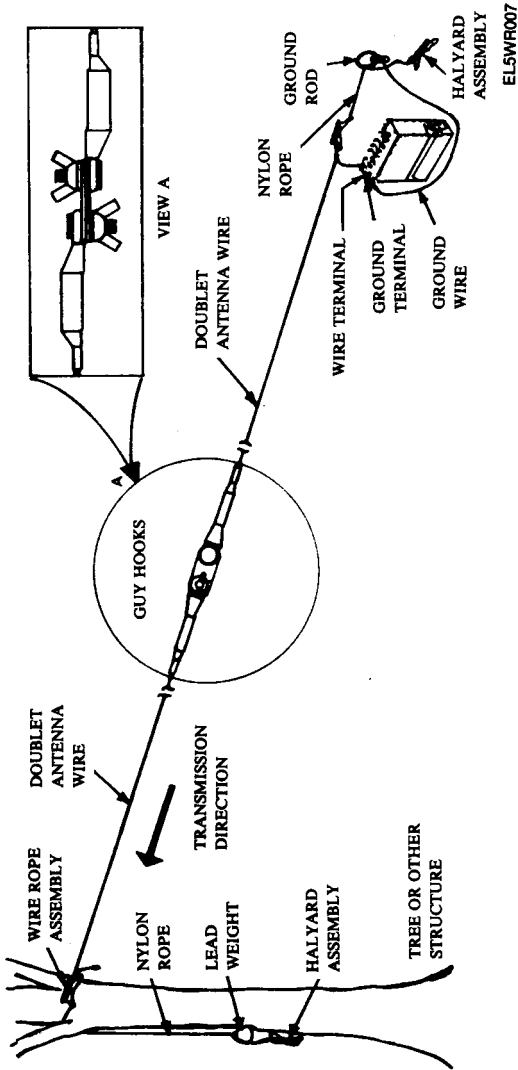

Figure 2-4. Long Wire Antenna Configuration
(9) Place the RT unit under the balun assembly near the RG-58 Cable Assembly.
(10) Place ground rod in the ground near the RT unit. Connect the ground wire to the GND terminal on the RT unit.
(11) Connect the RG-58 Cable Assembly to the ANT connector on the RT unit. If necessary, use the extra 25-foot RG-58 Cable Assembly with Adapter UG-914/U.
b. Operation With Long Wire Antenna. The radio set may be operated by using the two wire rope assemblies and the two halyard assemblies of the doublet antenna. The two guy hooks of the wire rope assembly are overlaid and bolted together. This will provide an antenna wire length of 234 feet. The arrangement of equipment is shown in figure 2-4. This long wire antenna arrangement can be used at any operating frequency from 6 to 30 MHz.